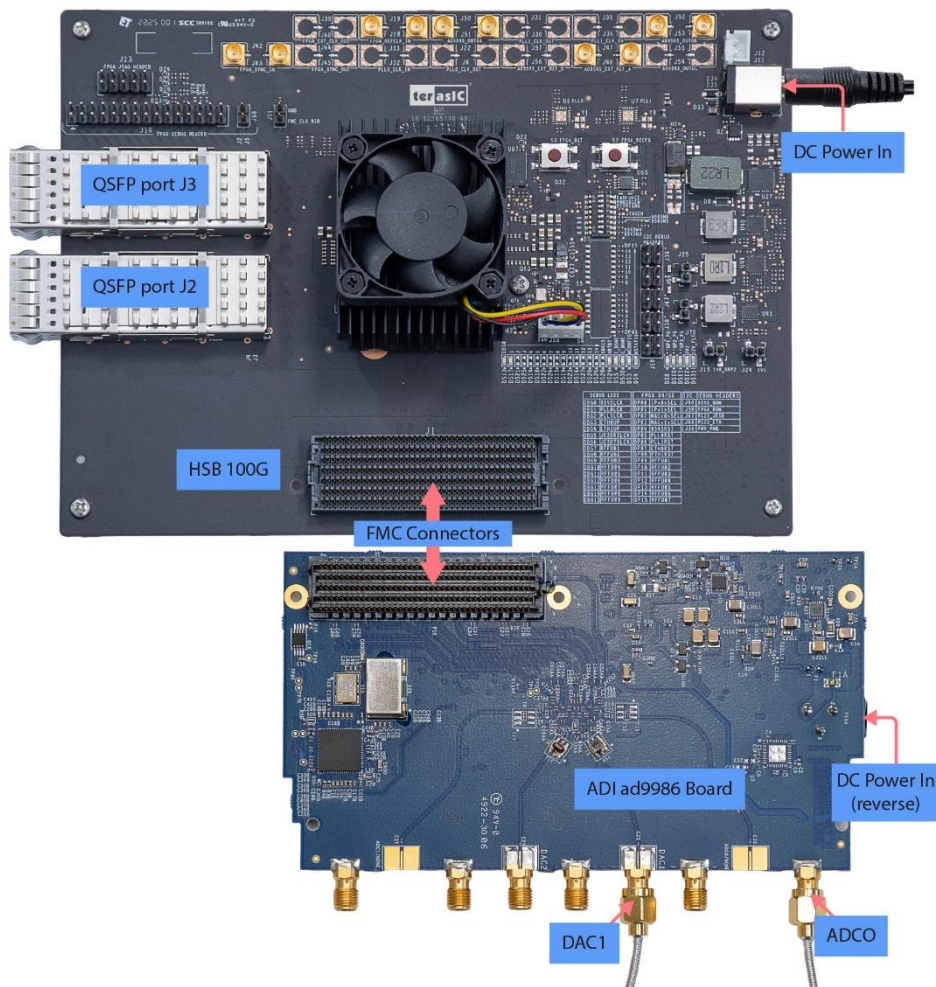

Figure 2-1 HSB 100G and AD9986 board with connection labels
1. Follow **Figure 2-1** to connect the 2x QSFP cables to port J2 and J3 on the HSB board.
4. Connect the FMC connectors on the HSB100G and the AD9986 board shown in **Figure 2-1**, mount the two together as shown in **Figure 2-3**, power on ADI board, and then HSB 100G.